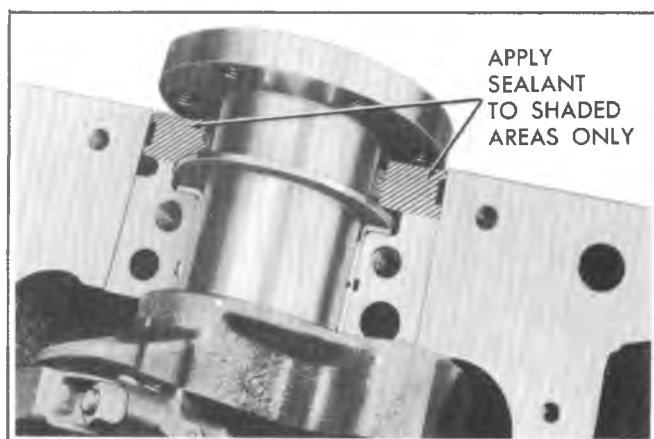

Fig. 6A5-58--Sealing Bearing Cap
5. Apply a thin coat of brush-on type oil sealing compound to block mating surface and corresponding surface of cap only (fig. 6A5-58). Do not allow sealer on crankshaft or seal.